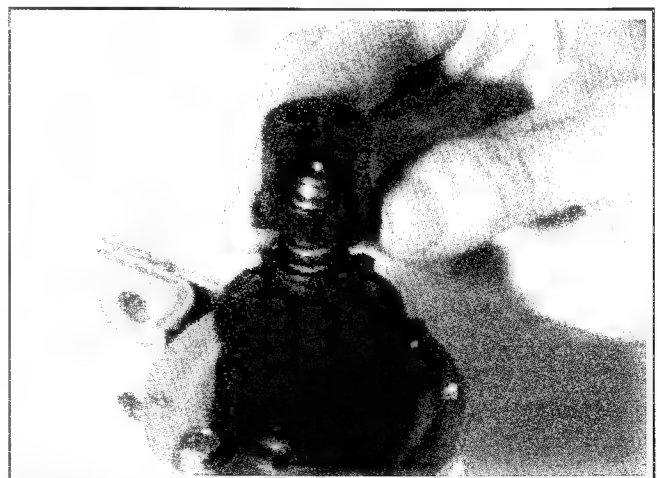

Figure 8-14. Assembling Larger Inner Half Around Spring Retainer.
4. Assemble the inner halves with the larger cavity around the spring retainer (see Figure 8-14). Slide the collar over them and thread the center screw in until resistance is felt.